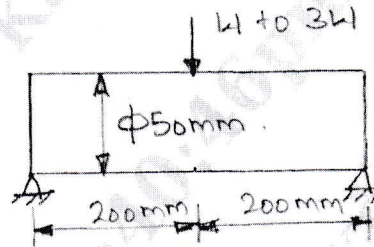

Fig. Q4 (b)
- b. Determine the max. load for a simply supported beam cyclically loaded as shown in Fig. Q4 (b). The beam material has ultimate strength  $\sigma_u = 700 \text{ MPa}$ , yield strength  $\sigma_y = 520 \text{ MPa}$  and fatigue strength in reversed bending  $\sigma_{-1} = 320 \text{ MPa}$ . Use FoS = 1.25. The load, size and surface correction factors are 1, 0.75 and 0.9 respectively.